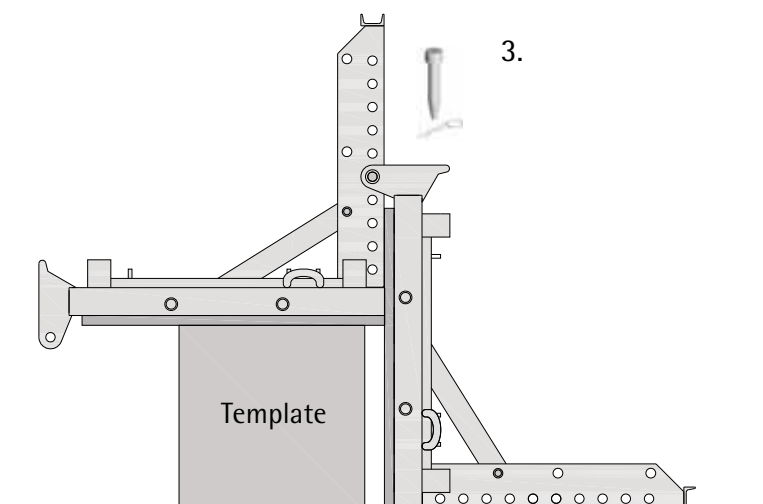

Fig. 16
3. Connect both wings with Grip bolts and retaining pins through the perforated strips and fastening plates (Fig. 16).